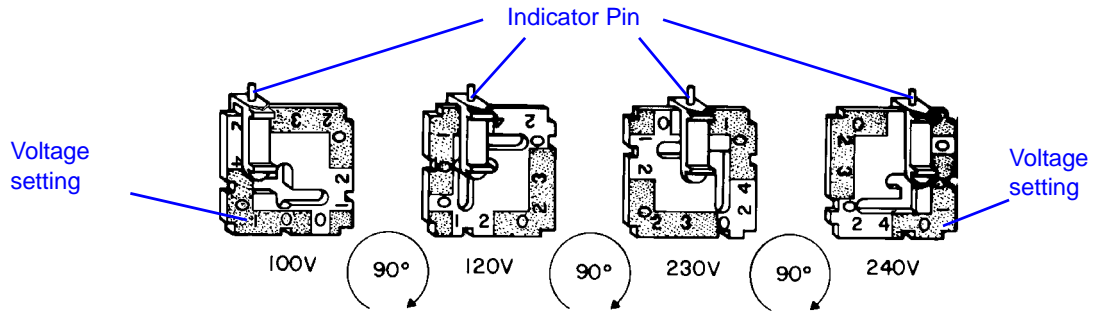

Figure 4-6. Selecting the Line Voltage Setting
6. Holding the pin in this position, rotate the card until the required voltage setting shows at the bottom of the card, as shown in Figure 4-6.